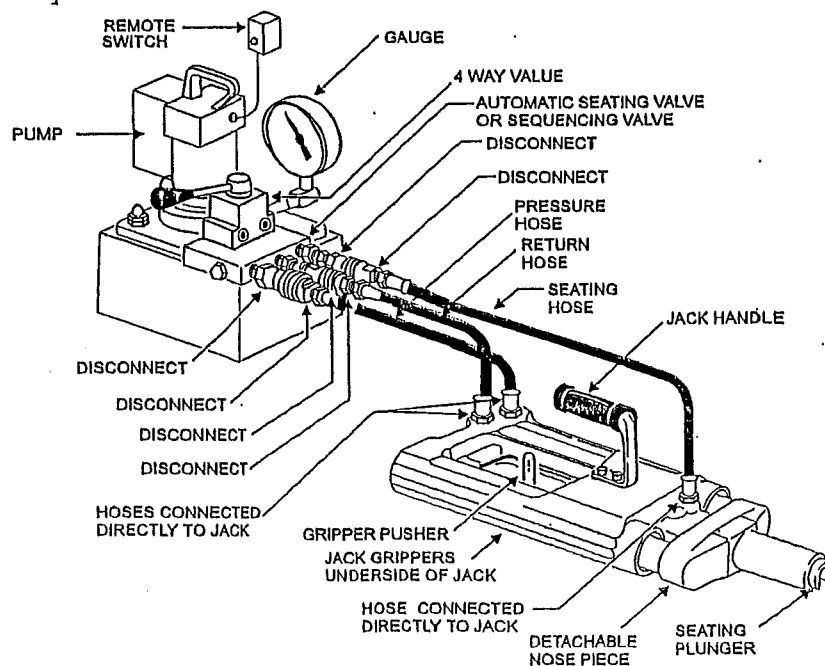

FIG. 6-1 Stressing Jack and Pump with Automatic Seating Valve
14. On pumps equipped with a sequence valve or automatic seating valve, (see Fig. 6-1)*: